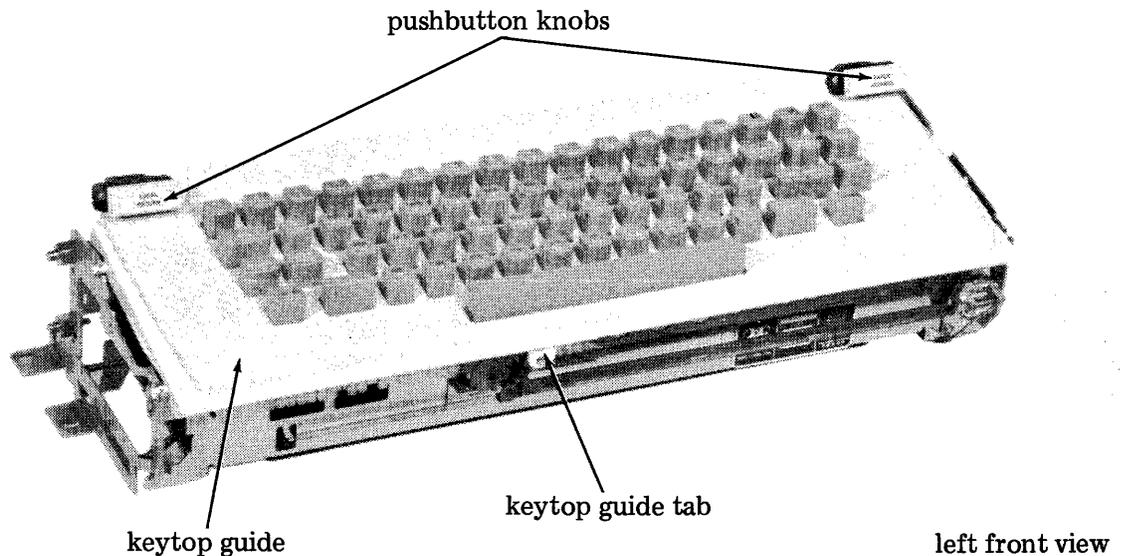

Figure 1 - Keytop Guide
2.01 Disassemble keytop guide (Figure 1) as follows: